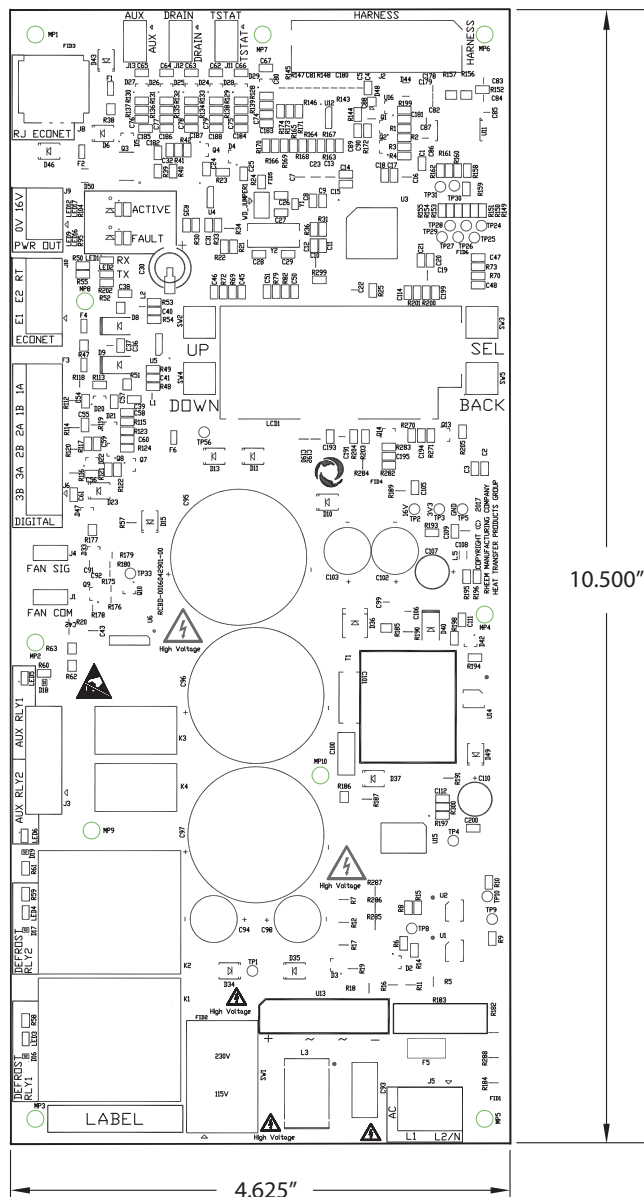

Figure 2
2. Verify correct voltage from main power supply to evaporator unit. Set the Voltage Selector Switch (Figure 2) on the controller board to the correct voltage setting (115V/230V) **before** powering up the unit.
3. Connect main power to the evaporator unit at the L1/L2 and GND terminals on the terminal board as shown in the wiring diagram (Figures 2, 3, 4).